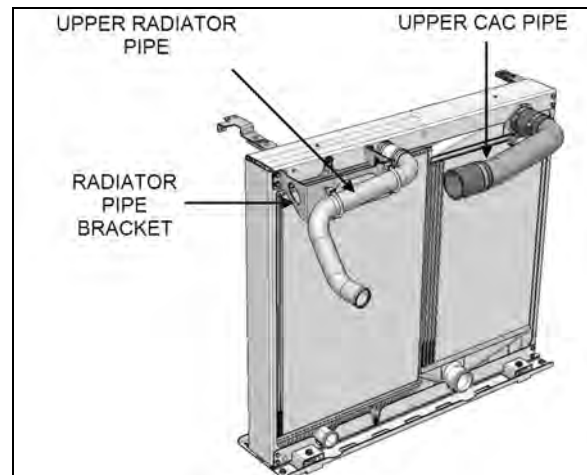

FIGURE 43: RADIATOR & CAC UPPER PIPES
31. Reinstall the upper CAC and radiator pipe sections (including bracket and hardware Figure 43).